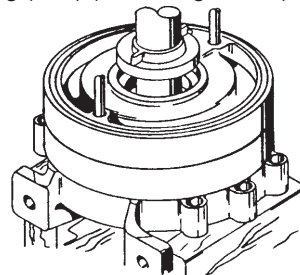

Figure 4-7
9. Slide an interstage bushing onto the shaft. The smooth wearing face should be installed against the ring (#9B).(refer to figure 4-7)